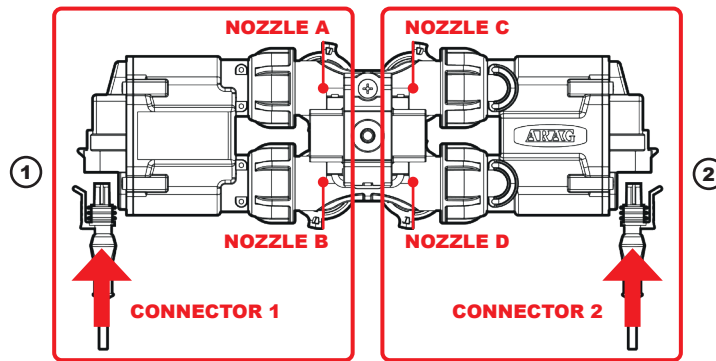

Fig. 124
- 1 Connect in sequence **ONLY SELETRON NOZZLE HOLDERS A AND B**, from left to right until the end of the boom (**connector 1** in Fig. 124).